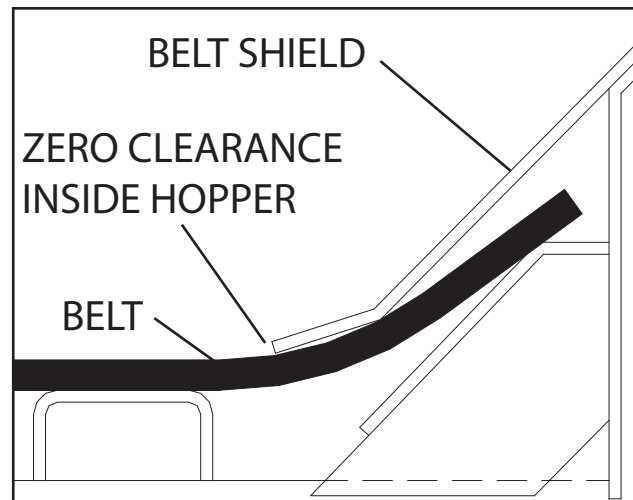

Figure 9
The belt shields, located along each side of the belt inside the unit, should be just contacting the belt when the belt is properly adjusted and the hopper is empty (Figure 9). If a shield has clearance along its length, it can be adjusted until it just contacts the belt by loosening the fastener bolts, allowing the shield to slide downward and tightening the bolts. If the shield tends to cut into the belt along its full length, loosening the bolts and raising the shield until it just contacts the belt will correct the problem.
13. Shut off all power and insert lumber under belt to support its weight as shown in Figure 9.